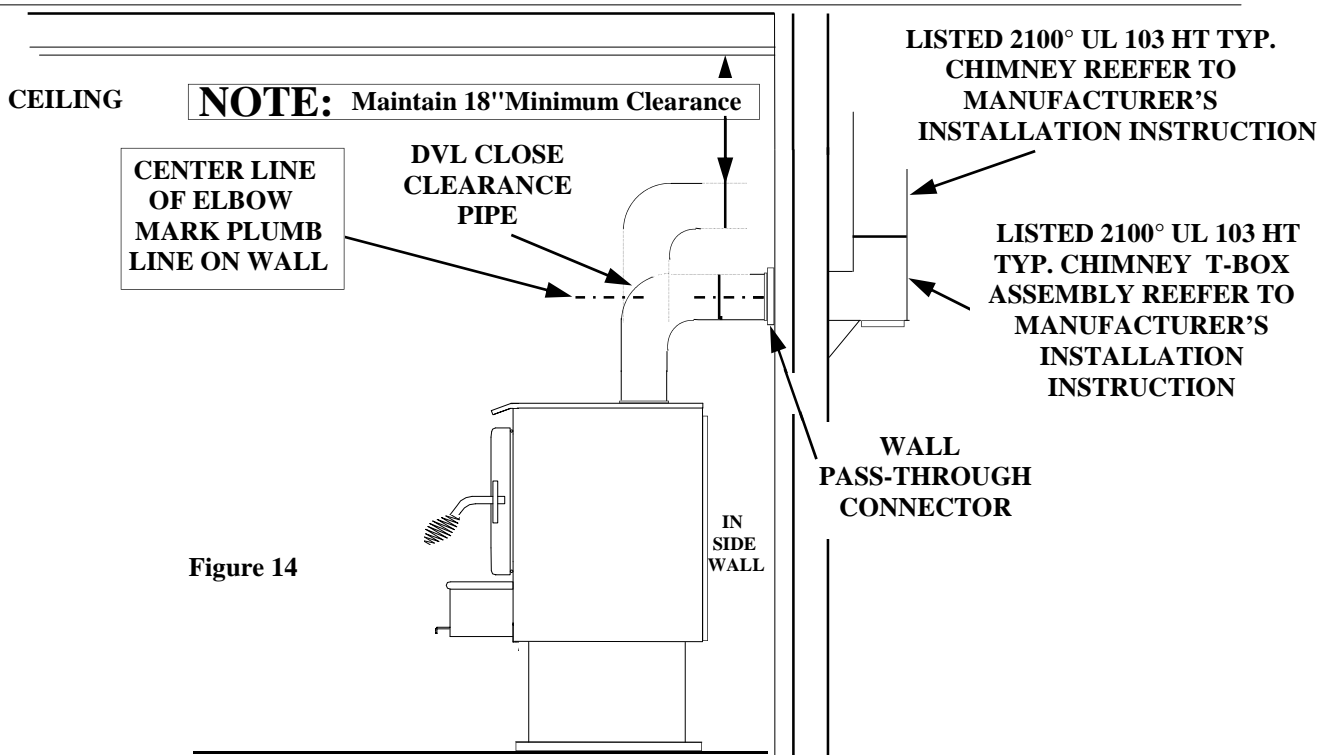

Figure 14
(See Page 22, Figure 14).
3. Measure up so there will be at least 1/4" rise per foot of horizontal connector pipe, maintaining clearances to ceiling as noted in (Page 21, Figure 14). This will give you center of hole for chimney penetration.
5. Connect the DVL close clearance pipe to tee-box per manufacturer's instructions, DVL close clearance pipe is to be connected with (3) sheet metal screws or rivets to connector collar on heater (See Page 22, Figure 14).